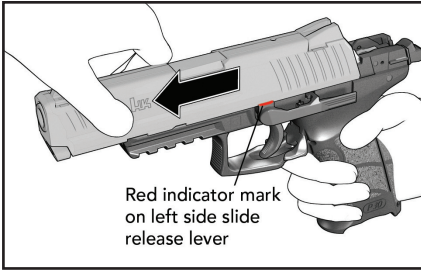

Figure 29 — Removing the slide
7. Pull slide release to the left until it reaches the locking position, pull slide forward off the pistol's frame (Figure 29).